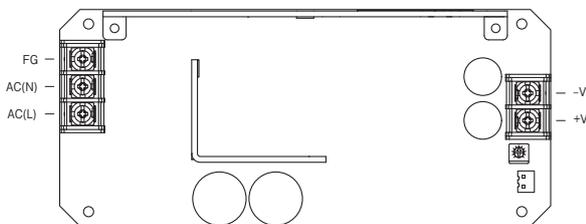
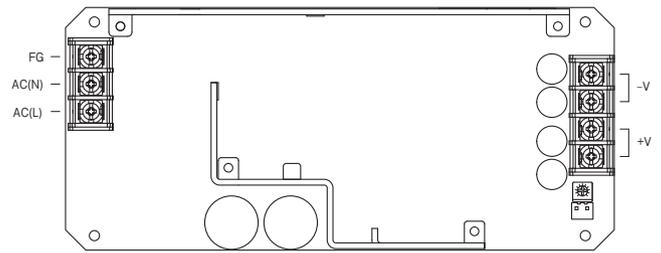

Fig. 7.3 Example of option -T (LHP150F)
Fig. 7.4 Example of option -T (LHP300F)
- Refer to fig.7.3, fig.7.4 for terminal arrangement.